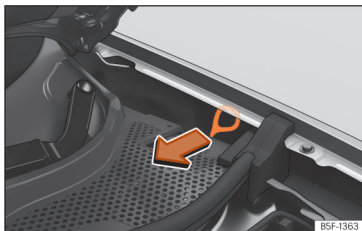

Fig. 62 Between the left wing panel and the engine bonnet hinge: Charging connector manual release mechanism puller.
The puller for the manual release mechanism is on the left hand side of the engine compartment, above the charging socket >>> Fig. 62.
- Pull the puller >>> Fig. 62.